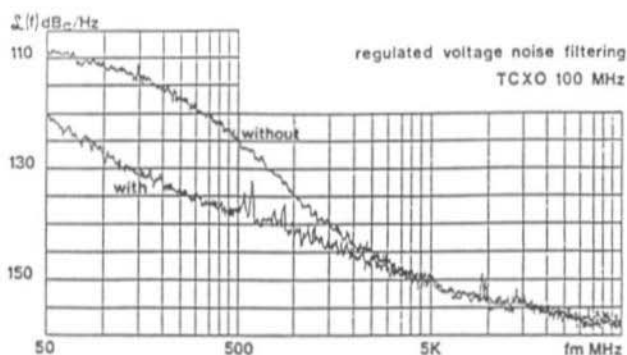

Fig.14 Influence of the voltage regulator noise on the phase noise of an oscillator
Next to the careful selection of suitable components and a low-noise regulator (e.g. type REF-01 from PMI or equivalent types from Linear Technology), good use should be made of devices for blocking low frequencies before and behind the regulator together with additional filtering elements. The influence of filtering is indicated in Fig.14 (taken from (9)).